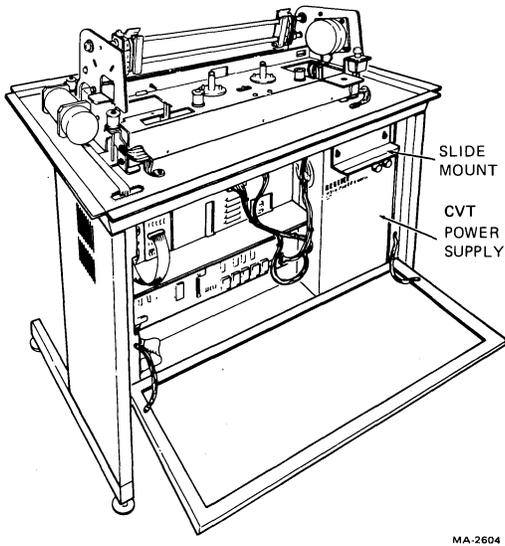

Fig. 24—Power Supply (CVT) Installation
- (a) Connect the CVT power supply connector to the power entry panel and slide the CVT power supply into position as shown in Figure 24.
- (b) Slide mounting plate into slot and tighten the two (8-32) screws (Figure 24).